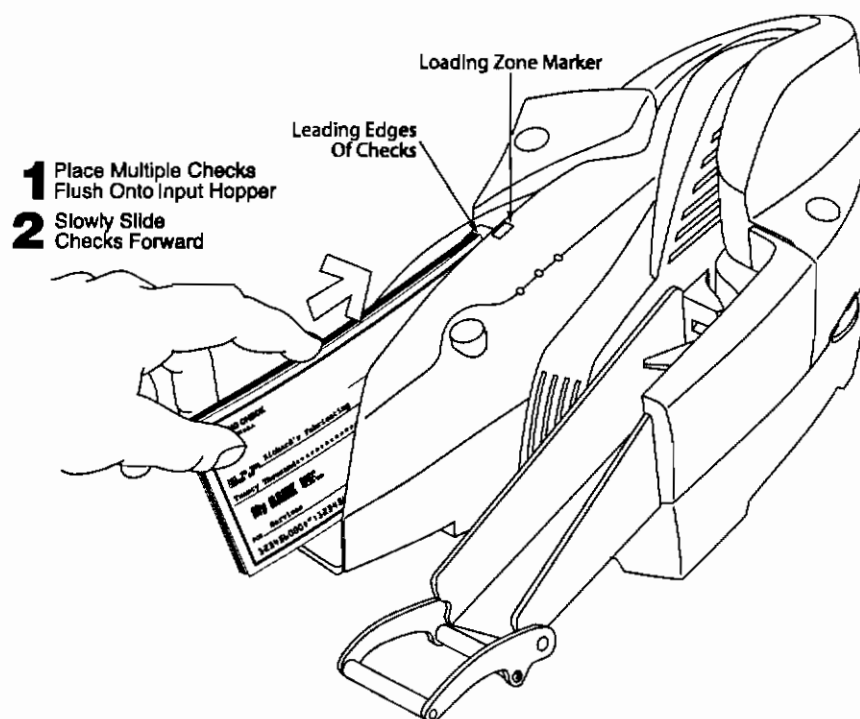

Figure 3-3. Stacking Checks in Input Hopper
The **Automatic Feed Input Hopper** can hold up to 70 checks. Separate the checks by fanning as indicated in Figure 3-2 and stack as shown in Figure 3-3.
1. Stack the checks in the **Automatic Feed Input Hopper** as shown in Figure 3-3.
2. Slide the deck forward to the **Loading Zone Marker** so that all leading edges are within the length of the loading zone as shown in Figure 3-3.